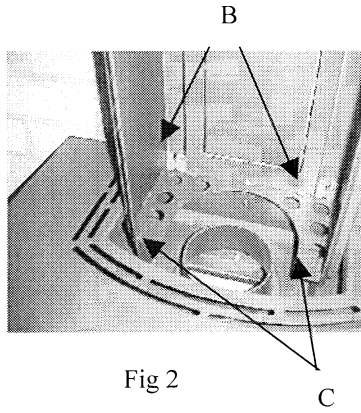

Fig 2
- Move the duct back plate on the heater so that the threaded ends drop into the slots in the lips; screw on nuts and tighten. Then screw the back plate to the front side and bolt this to the wall.(fig 2)